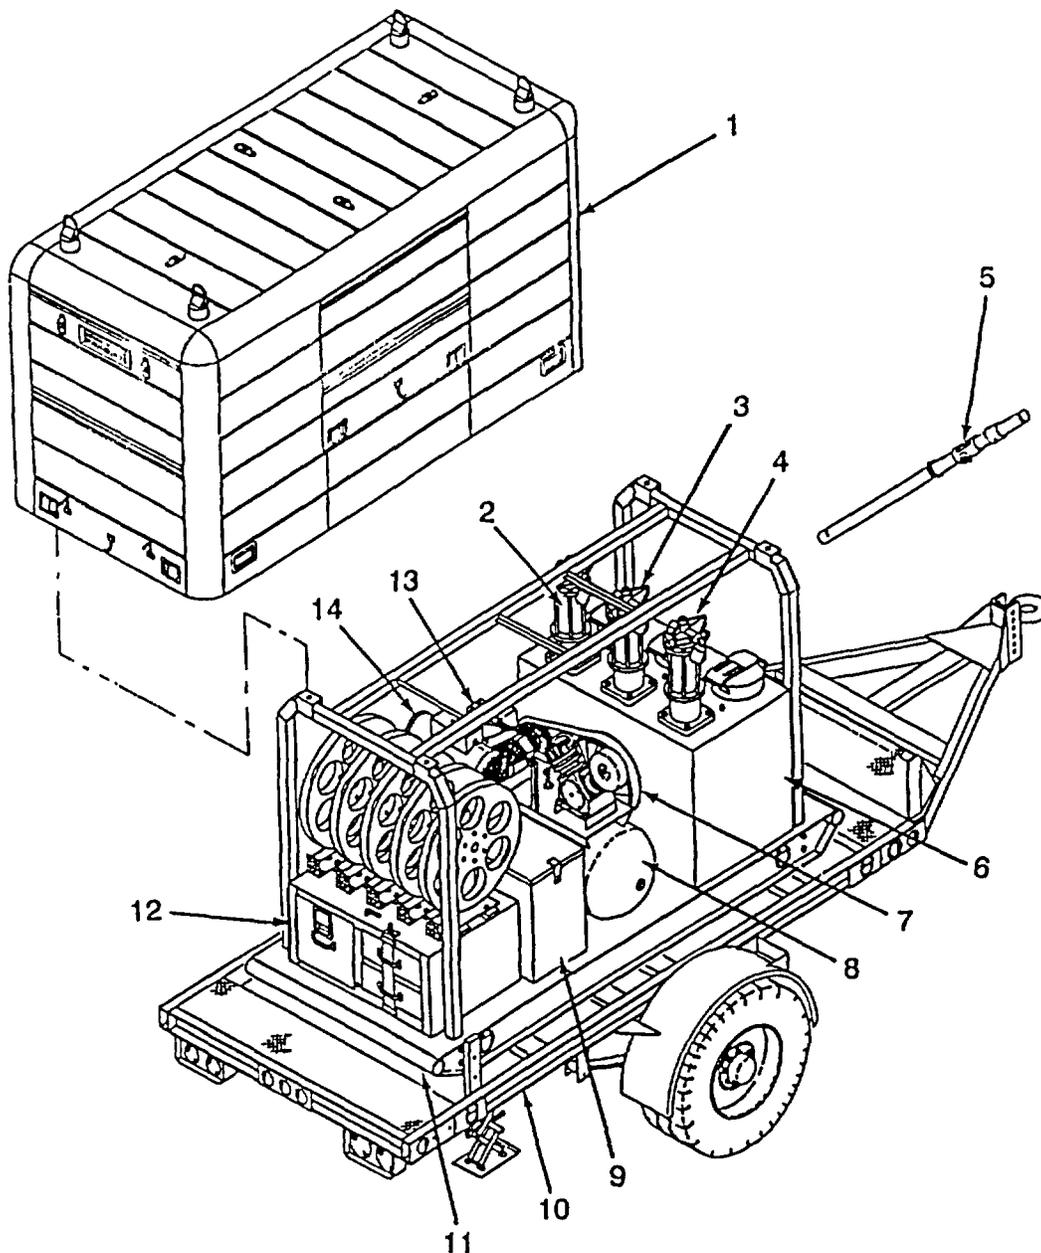

Figure 1-2. Location Of Major Components.
- (1) The winterization assembly heats the engine, battery, and lubricant tank. This allows the lube unit to operate in temperatures down to -40°F.
- (2) The lube unit dispenses air and three types of lubricant: grease, engine oil, and gear lube.
- (3) A transfer pump is included for use in dispensing lubricants from 55-gallon drums.
- (4) A trouble light is provided for illumination of obscured areas and for night missions.
- (5) Many accessories have been provided for specialized lube jobs.
**1-11. LOCATION AND DESCRIPTION OF MAJOR COMPONENTS. (Refer to Figure 1-2).**
- a. Aluminum Enclosure (1): Encloses major components, suppresses noise levels, and protects components from harsh weather.
- b. Engine Oil Pump (2): Pumps engine oil for desired use.
- c. Grease Pump (3): Pumps grease for desired use. Two hoses are included for this pump.
- d. Gear Lube Pump (4): Pumps gear lubricant for desired use.
- e. Transfer Pump (5): Pumps diesel fuel, engine oil, and gear lubricant from 55 gallon drums.
- f. Lubricant Tank (6): Houses three compartments: one grease, one gear lubricant, and one for engine oil.
- g. Air Compressor (7): Creates compressed air. Stores air in the air receiver tank for use as needed.
- h. Air Receiver Tank (8): Stores compressed air created by the compressor.
- i. Tool Box Assembly (9): Contains air repair hose, transfer pump discharge hose, and miscellaneous tools and accessories.
- j. Trailer Assembly (10): Allows for towing of the lube unit. Serves as mounting platform for the Unit.